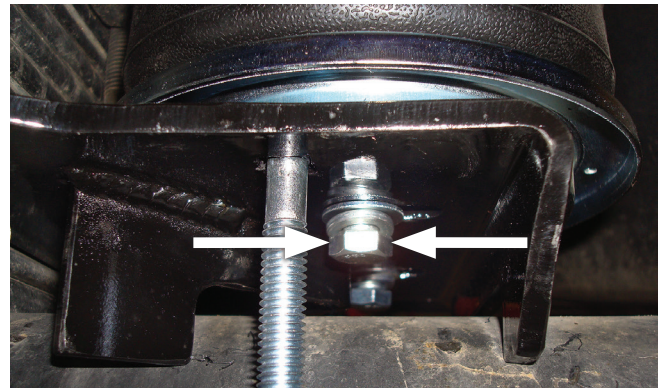

Fig. 19
- Using the slot in the lower bracket, push the bottom of the air spring in or out to align it so that it is perpendicular (or as perpendicular as possible) to the upper and lower bracket. Torque the lower bracket/air spring hardware to no more than 20 lb.-ft. (27Nm) (Fig. 19).